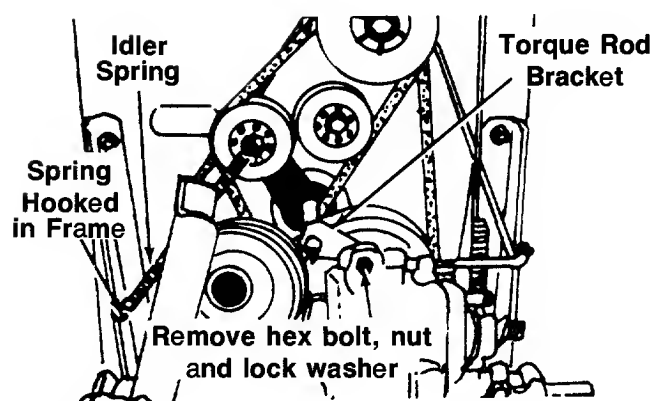

FIGURE 28.
3. Unhook the idler spring from the rider frame. See figure 28.